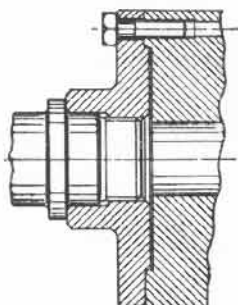

Fig. 48
- (1) Before screwing backplate on to spindle nose, ensure the cleanliness of spindle nose, backplate register faces and thread.
- (2) Screw backplate firmly on spindle nose.
- (3) Machine register diameter to light tap fit in chuck body.
**Note.**—With three-jaw gear scroll chucks, contact is made with the outer face of the chuck body and clearance with the inner face, see Fig. 48.